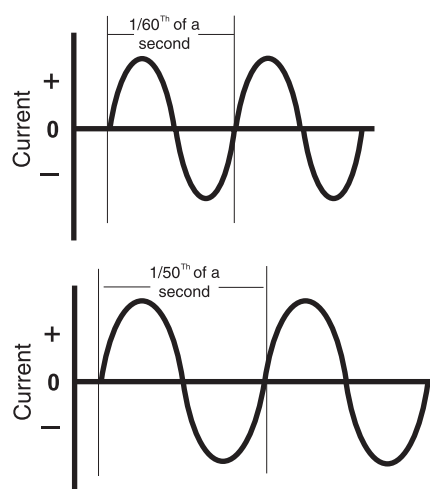

Figure 2.4 An oscilloscope representation of normal 50 and 60 Hz in relation to increased frequency rate.
Even after alternating current (AC) became available for welding with the use of transformer power sources, welds produced were more difficult to accomplish and of lesser quality than those produced with direct current (DC). Although these AC transformer power sources greatly expanded the use of commercial power for SMAW (Stick), they could not be used for GTAW because as the current approached the zero value, the arc would go out. (see Figure 2.4). Motor generators followed quickly. These were machines that consisted of an AC motor, that turned a generator, that produced DC for welding. The output of these machines could be used for both SMAW and GTAW.
fundamental principal on how an “inverter power source works”. Frequency has major effect on welding arc performance. As frequencies go up, the arc gets more stable, narrows, and becomes stiffer and more directional. Figure 2.4 represents some various frequencies.